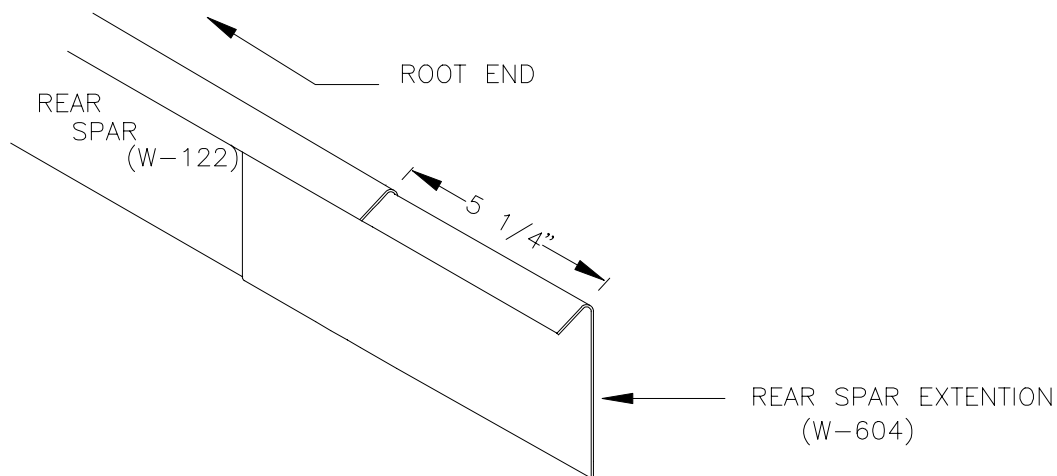

Figure 8.4.1
- 1) Position the (W-604) Rear Spar Extension Top at the tip end of the Rear Spar as in Figure 8.4.1.